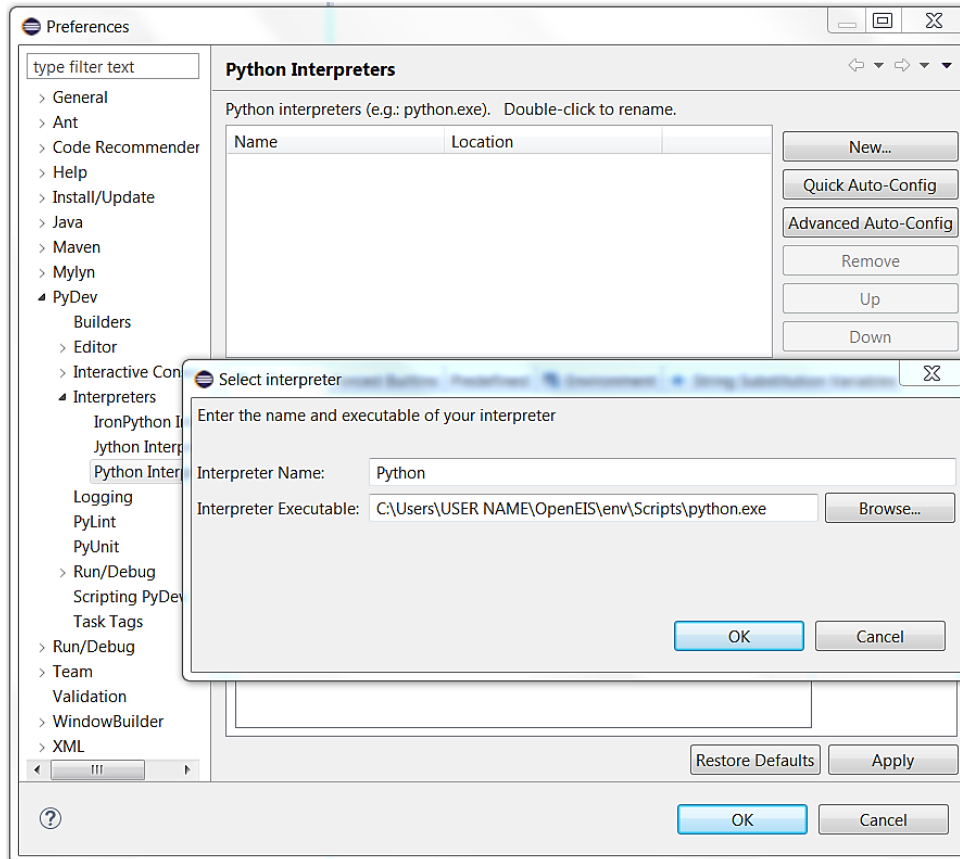

Figure 27: Configuring PyDev (continued)
- Select browse -> navigate to the project Python interpreter : `./OpenEIS/env/Scripts/python.exe` -> select OK (Figure 27)